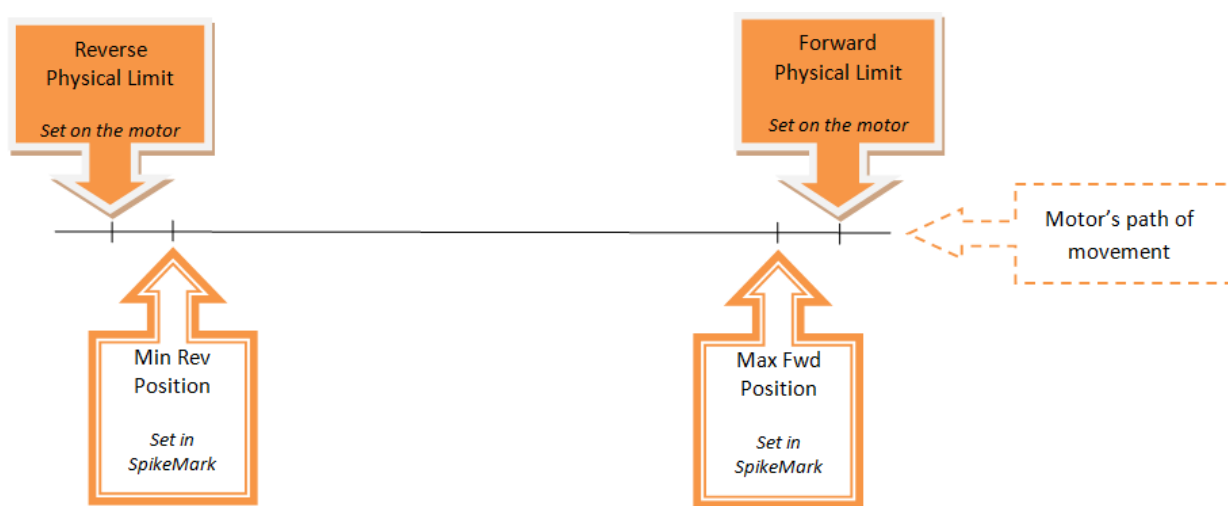

Figure 136
**If possible, set the Max Forward Position and the Min Reverse Position to be slightly less than the physical limits set on your motor switches (Figure 136).**